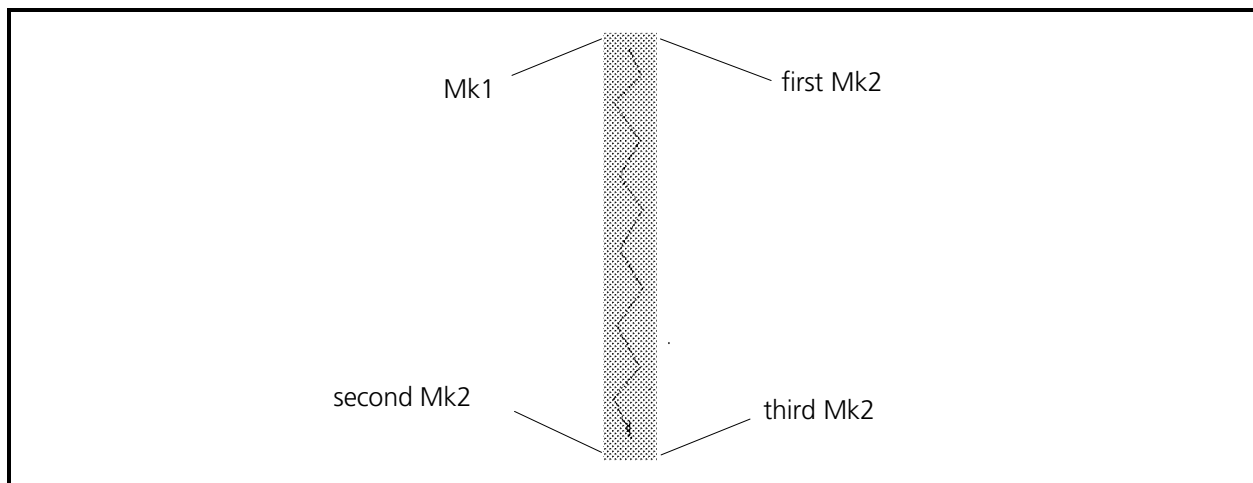

Figure 3-21
4. In this letter **I**, for simple straight column stitching, you define the beginning of the column with a Mk1 on the left side of the column at the top (see Figure 3-21).
5. Next, enter a Mk2 at the beginning of the right side of the column at the top. (see Figure 3-21).
6. Now move to the bottom left of the letter to the end of the first line of the column and enter another Mk2 (see Figure 3-21).
7. The last step in generating the column is to go to the end of the second line of the column (at bottom right of the letter) and enter a third Mk2 (see Figure 3-21).